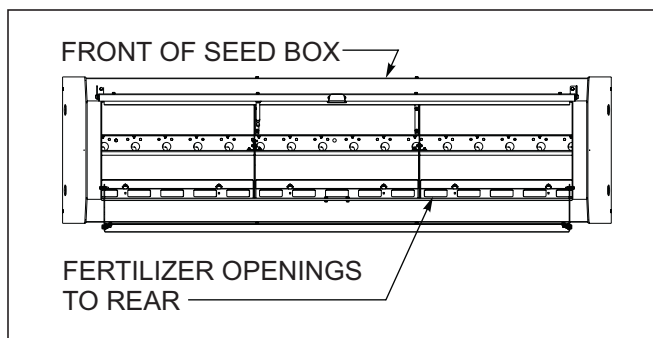

Figure 4-18: Fertilizer Box w/Cover Opening to Rear
- a. To use the dry fertilizer option, the covers in the bottom of the rear fertilizer compartment must have the openings to the rear *See Figure 4-18*. This will close off openings to the seed compartment and allow dry fertilizer to enter the fertilizer meters.